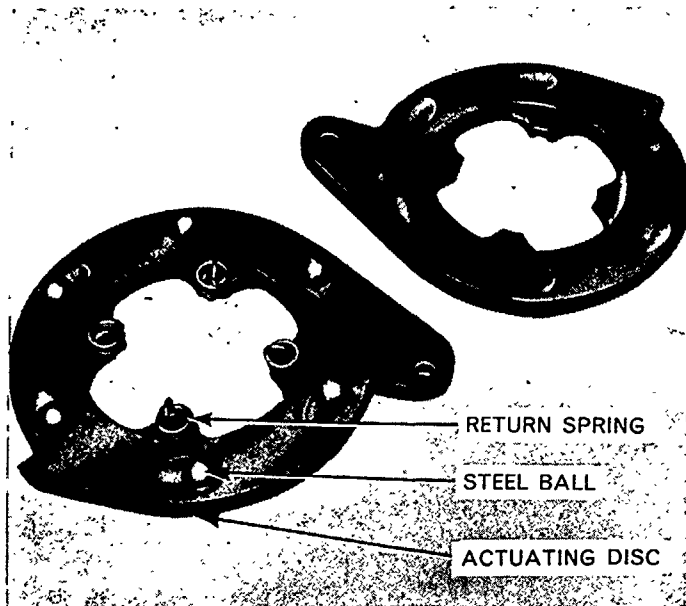

Figure 57
2. Remove the four actuating disc return springs and separate the actuating discs, Figure 57.
1. To reassemble, lay one actuating disc with its inner face up and locate the steel balls in their ramped seats, Figure 57.